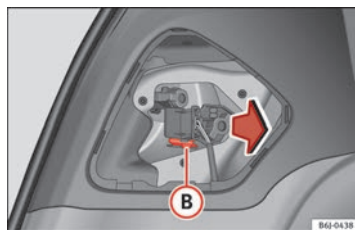

Fig. 181 Removing the bulb holder.
- Remove the bulb holder by pressing the fastening clip **B** ⇒ Fig. 181 and pulling it outwards.